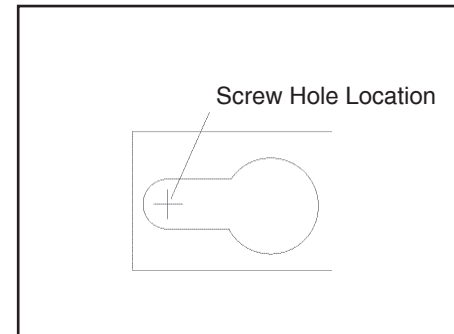
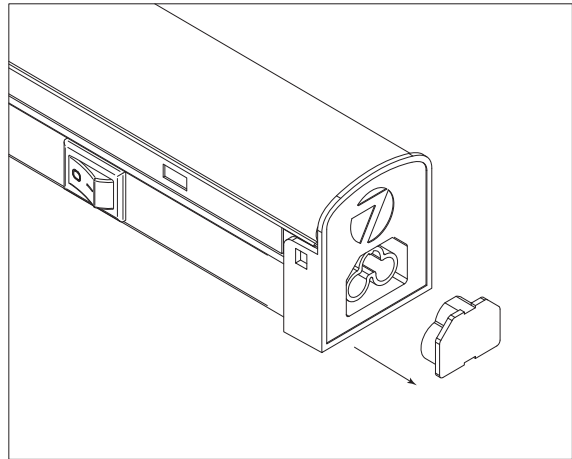

Figure 2
Figure 5
5. Position the Housing Assembly (1) against the mounting surface and with a pencil, mark the screw hole locations to be located at the narrow section of the keyholes. **See Fig. 2.**
6. Using a drill with a 1/16" drill bit, make two small pilot holes at the marked screw hole locations. If drill bit does not encounter a stud or wood surface, use toggle bolts or suitable fastener depending on structural conditions. If drill bit does encounter wood surface, use provided #10 wood screw (10).
7. Partially install the Mounting Screws. Position the Housing Assembly (1) against the mounting surface with the screw heads through the keyhole mounting holes. Slide the fixture until the screw heads are through the narrow section of the key holes. Finish tightening the screws to secure the fixture against the mounting surface.
5. Coloque la caja de la luminaria (1) contra la superficie de montaje y con un lápiz, marque las localizaciones de los agujeros para los tornillos que serán ubicados en la sección angosta de los "keyholes". **Vea Fig. 2**
6. Usando un taladro con una broca de 1/16", haga dos pequeños agujeros pilotos en las ubicaciones marcadas para agujeros de tornillos. Si la broca del taladro no se encuentra con un machón o madera, use perno de expansión u otro sujetador conveniente dependiendo de condiciones estructurales. Si la broca se encuentra con una superficie de madera, use tornillo de madera #10. (10)
5. Placer le boîtier de l'appareil (1) sur la surface de montage et à l'aide d'un crayon tracer l'emplacement des trous de vis sur la partie étroite des encoches en trou de serrure. **Voir la Fig. 2**
6. À l'aide d'une perceuse et d'un foret de 1/16 po, faire deux petits trous de guidage aux endroits indiqués pour les trous des vis. Si la perceuse ne rencontre pas un montant ou une surface en bois, utiliser des boulons à ailettes ou d'autres fixations, selon les conditions de la structure. Si la perceuse rencontre une surface en bois, utiliser une vis à bois calibre 10. (10)
10. Ramassez les câbles dans un groupe serré pour les mettre à l'écart et reconnectez les connecteurs de câbles (4). Réinstallez l'assemblage du couvercle DEL (2).
12. Once the first fixture is mounted, you can install the next fixture in the chain. On the end(s) of fixture to be connected- remove plug cover- **See Fig 5.**
3. Position the Housing Assembly (1) against the mounting surface and with a pencil, mark the screw hole locations to be located at the narrow section of the keyholes. **See Fig. 2.**
4. Using a drill with a 1/16" drill bit, make two small pilot holes at the marked screw hole locations. If drill bit does not encounter a stud or wood surface, use toggle bolts or suitable fastener depending on structural conditions. If drill bit does encounter wood surface, use provided #10 wood screw (10).
5. Partially install the Mounting Screws. Position the Housing Assembly (1) against the mounting surface with the screw heads through the keyhole mounting holes. Slide the fixture until the screw heads are through the narrow section of the key holes. Finish tightening the screws to secure the fixture against the mounting surface.
6. Bundle wires in tight grouping to be out of the way and reconnect Wire Connectors (4). Reinstall LED Cover Assembly (2).
8. Once the first fixture is mounted, you can install the next fixture in the chain. On the end(s) of fixture to be connected- remove plug cover- **See Fig 5.**
12. Una vez que el primer luminaria está montado, usted puede instalar el siguiente en el circuito. En los extremos del montaje que se conectará: quite la cubierta del enchufe, **Vea fig 5.**
Vea Fig. 2.
6. Ate los cables en grupos ajustados para que estén fuera del camino y vuelva a enchufar los conectores de cable (4). Vuelva a instalar el montaje de cubierta del led (2).
12. Lorsque le premier appareil d'éclairage est monté, vous pouvez installer l'appareil suivant de la chaîne. Aux extrémités du luminaire à connecter - retirez le couvercle de la prise - **Voir Fig 5.**
8. Una vez que el primer luminaria está montado, usted puede instalar el siguiente en el circuito. En los extremos del montaje que se conectará: quite la cubierta del enchufe, **Vea Fig 5.**
8. Lorsque le premier appareil d'éclairage est monté, vous pouvez installer l'appareil suivant de la chaîne. Aux extrémités du luminaire à connecter - retirez le couvercle de la prise - Voir Fig 5.